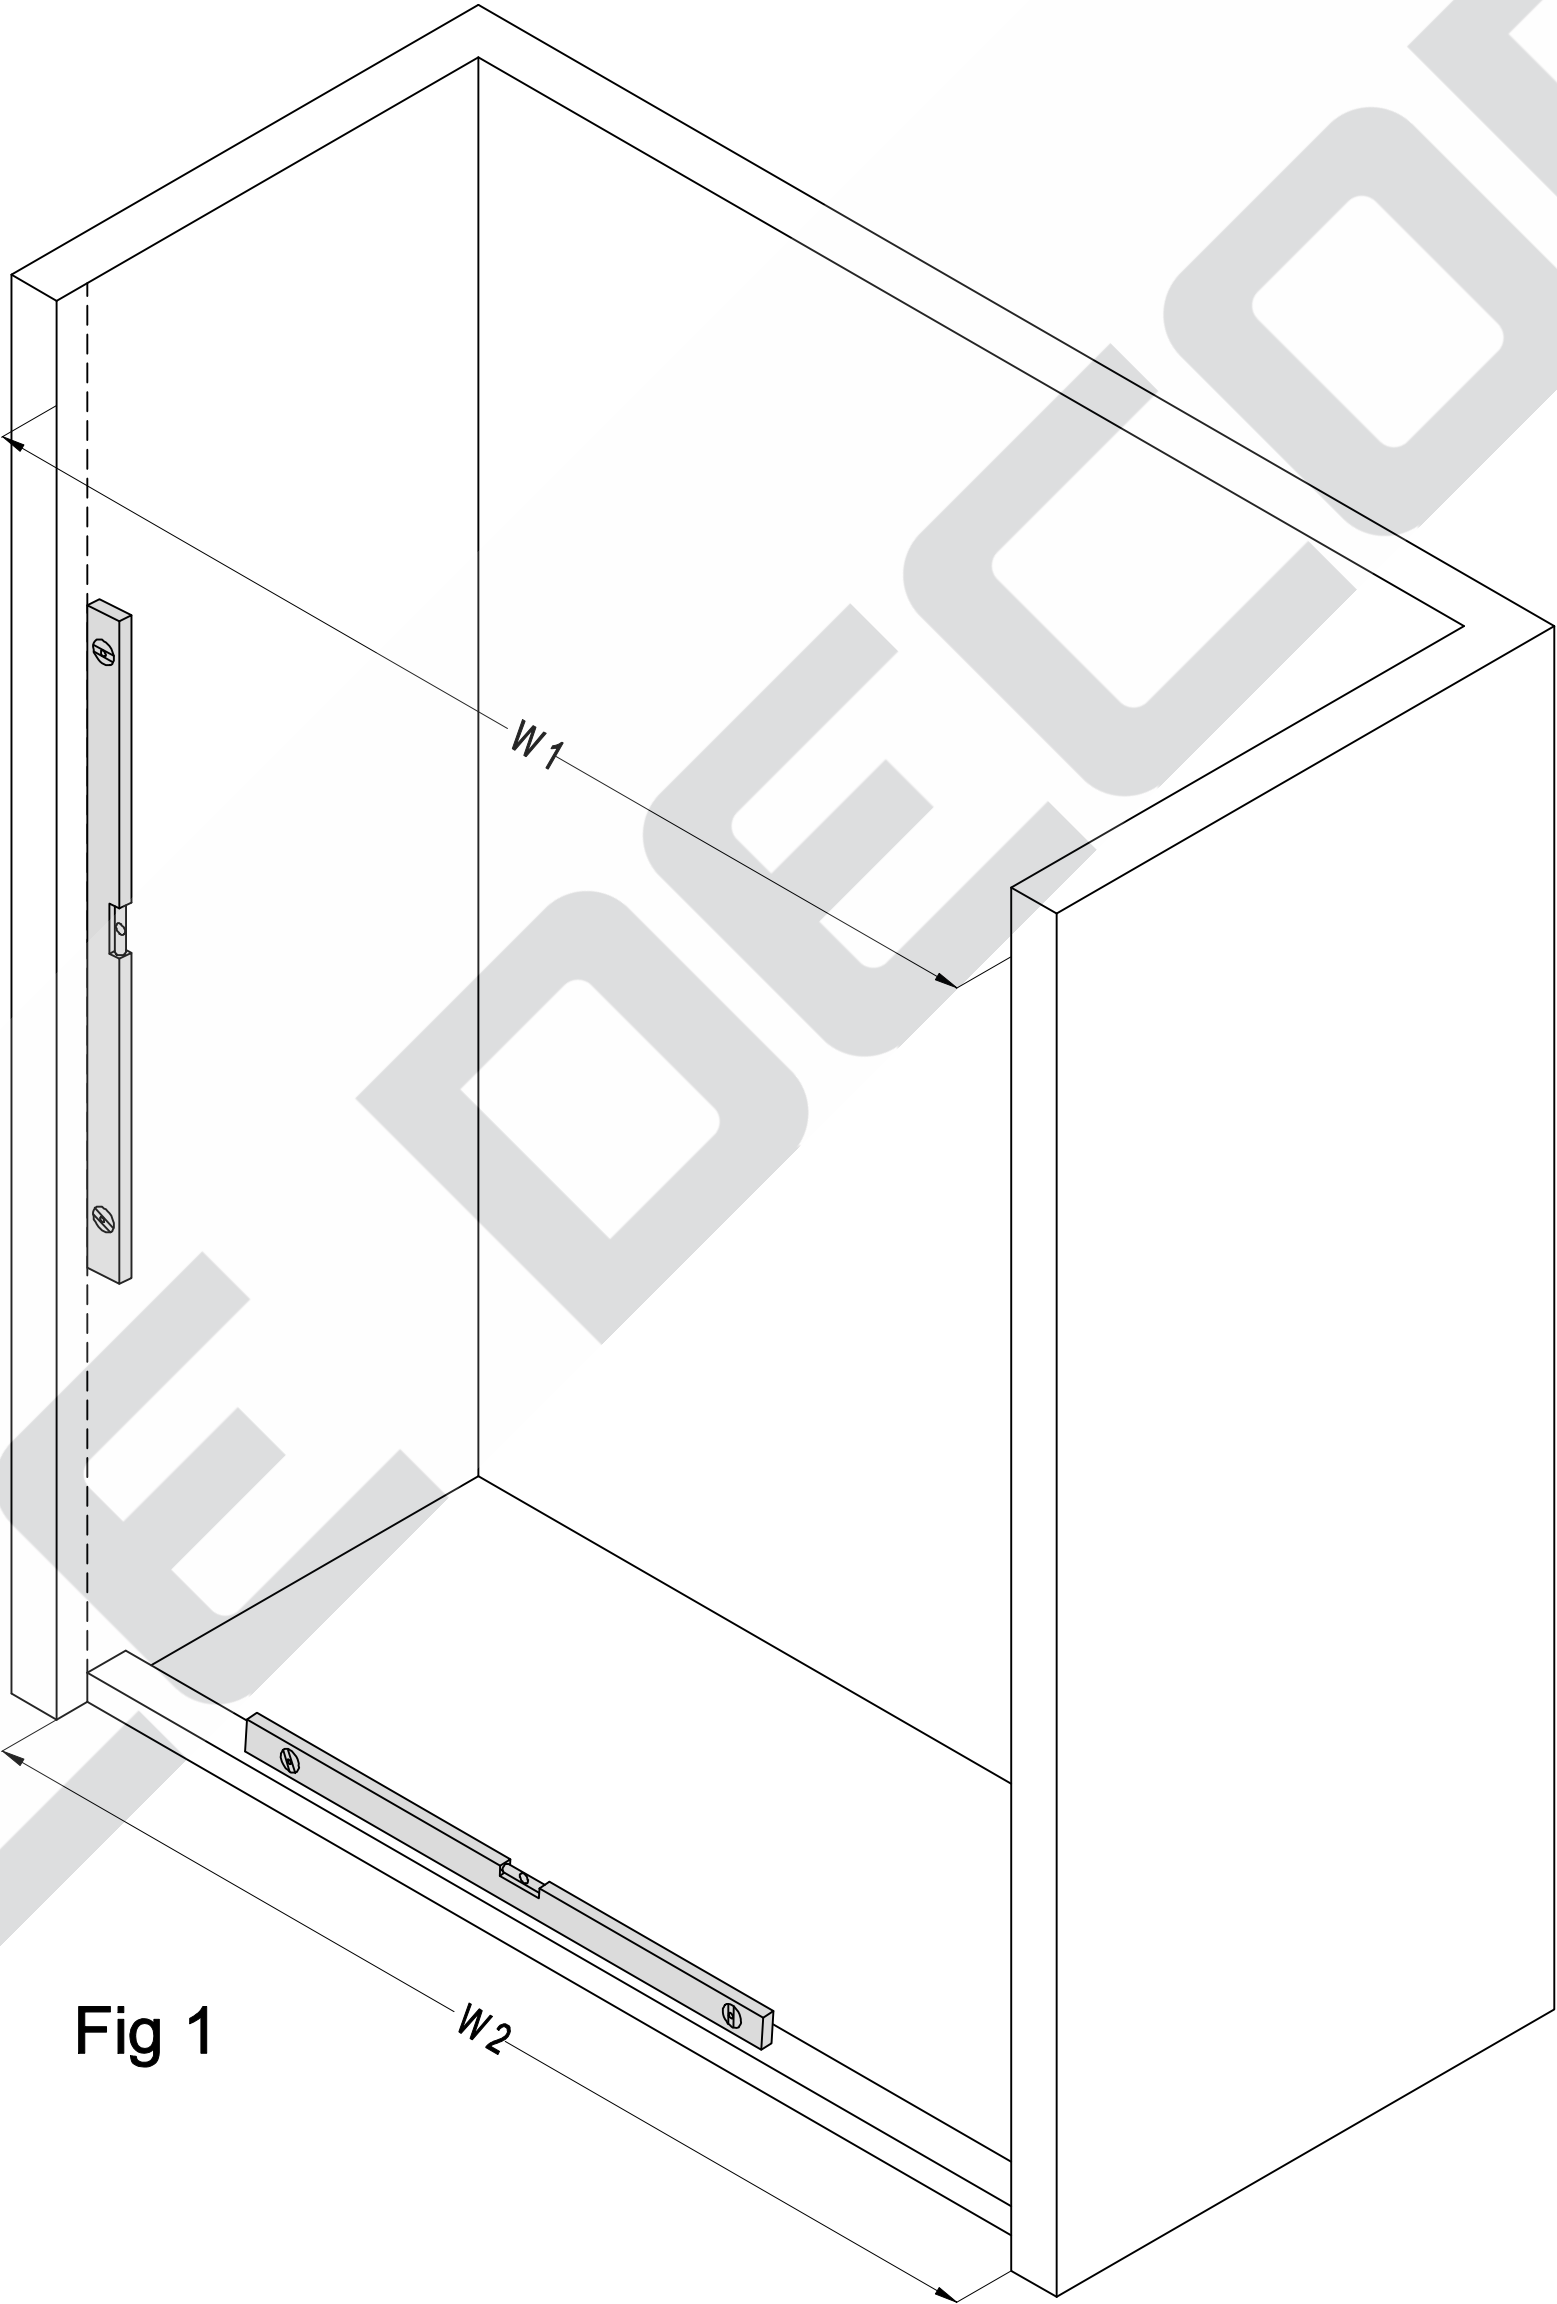

Fig 1
- 2. Also check the threshold for level and the walls for plumb.(Fig 1)